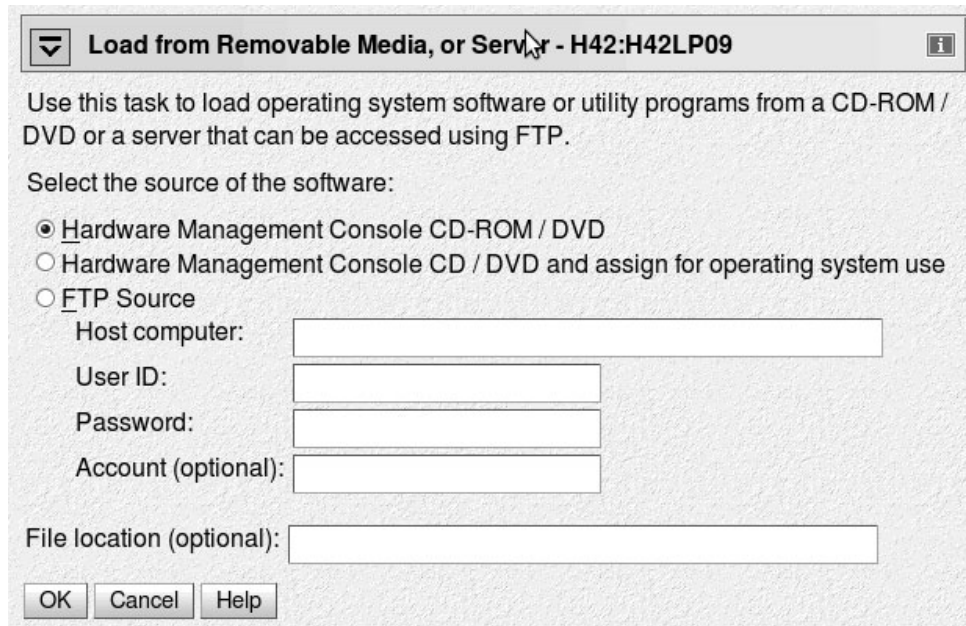

Figure 66. Load from Removable Media or Server panel
- a. Select **Hardware Management Console CD-ROM/DVD** (see Figure 66 on page 360).